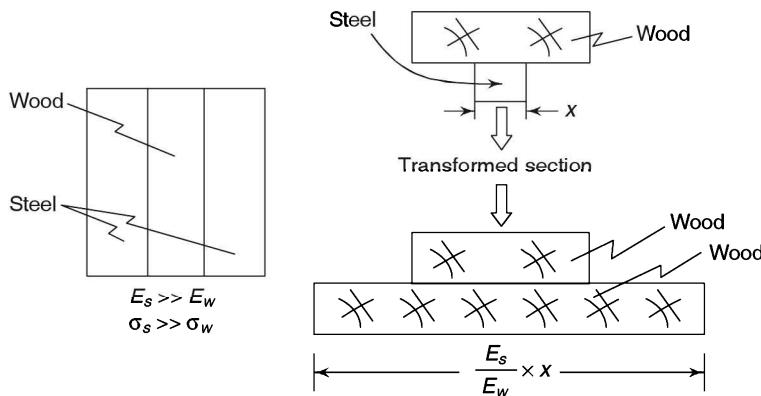

FIGURE 16.4 Transformation of a steel strip to an equivalent wooden strip.
3. The steel strip having width x can be transformed into the wooden strip of $\frac{E_s}{E_w} \times x$ width to simplify the analysis of a flitched beam where E_s is Young's modulus of steel and E_w is Young's modulus of wood. The transformation from steel to an equivalent wooden strip is as shown in Figure 16.4.